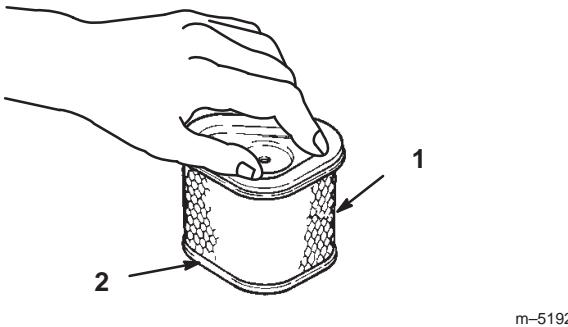

Figure 34
1. Lightly tap the element on a flat surface to remove dust and dirt (Fig. 34).